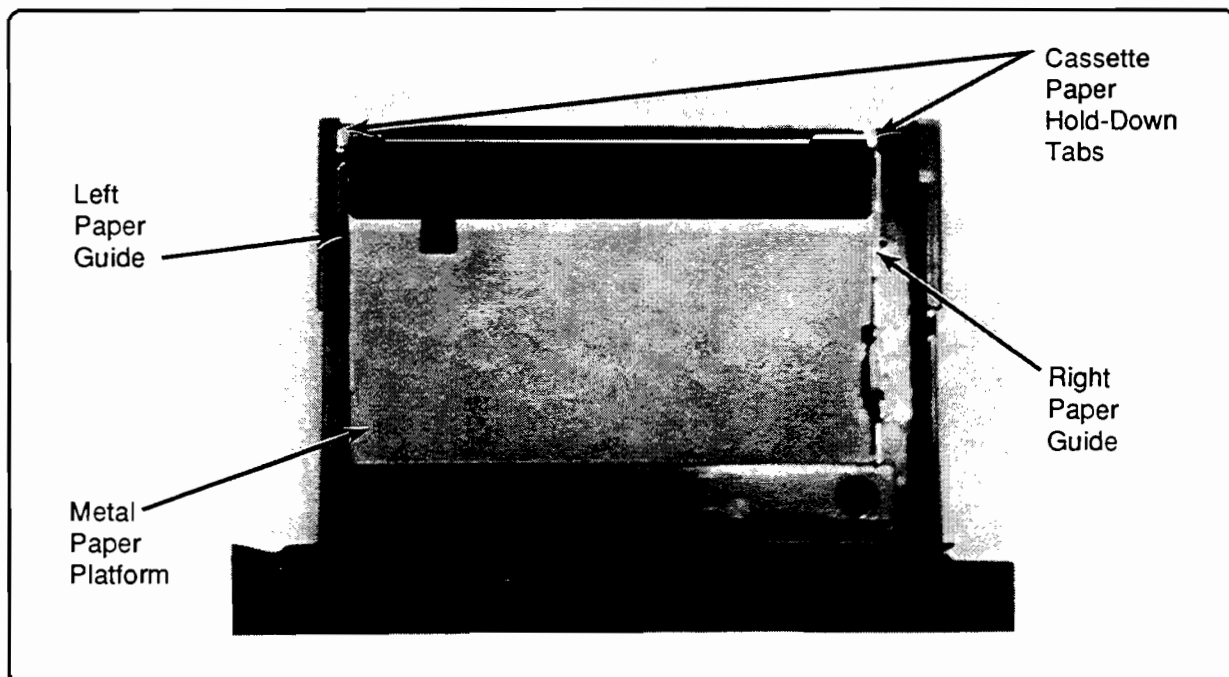
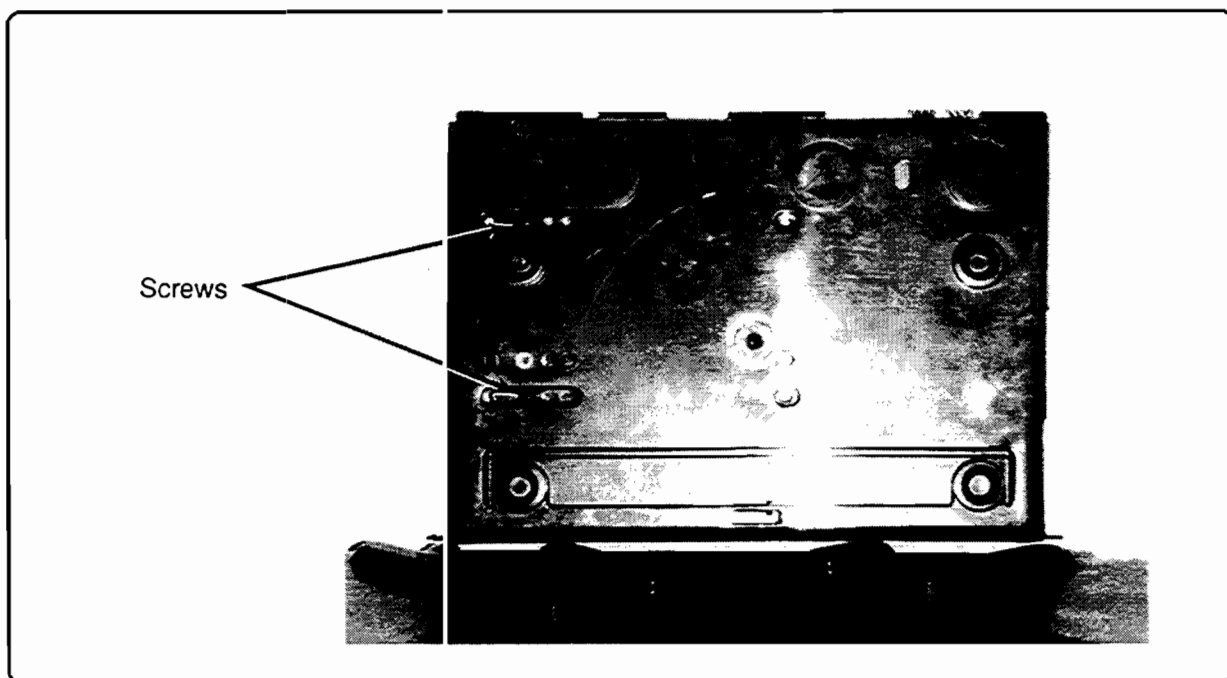

Figure 4-10. Cassette Inspection
Figure 4-11. Bottom of Cassette
9. Examine the cassette paper hold-down tabs (see Figure 4-10):
- Remove paper from the cassette trays. Apply pressure to the metal paper platform, depressing fully. Slowly release. Repeat several times and examine for freedom of movement. If the platform binds against the sides of the left and right paper guides (Figure 4-10), loosen the two screws on the bottom of the cassette tray (Figure 4-11) and adjust the one paper guide until the platform moves freely. Tighten the screws, then reinstall the paper in each cassette tray.